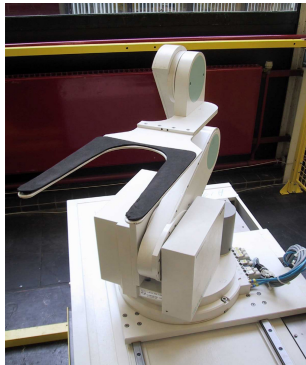

Figure 1: photo of the robot
The industrial robot that will be used in this project was originally designed by Philips. At the Philips factory it was used in the production of LCD-screens. The robot got a second life in education projects at the Department of Mechanical Engineering of the Eindhoven University of Technology. Figures 1 and 2 show a photo and a schematic drawing of the robot. In the schematic the degrees of freedom are indicated. The motors for the horizontal and vertical fork (1) displacement are located inside part (3). The axles inside the arm (2) are not directly driven, but serve as a mechanical transmission. Also there is a motor for the rotation of part (3) relative to the table (4) and a motor for the translation of the table (4) on the base (5).